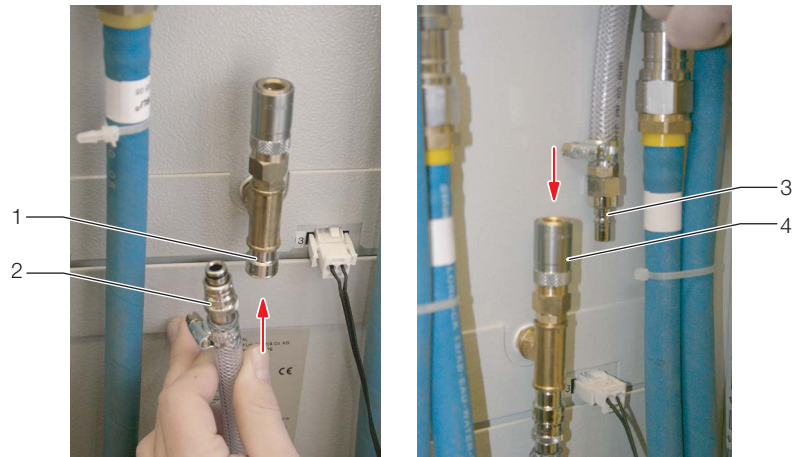

Fig. 36: Quick release fastener on the condensate discharge
- Connect the condensate hose's plug-in nipple with the lower connection on the condensate discharge on the front side of the heat exchanger module. To do this, press the plug-in nipple (Fig. 36, Pos. 2) firmly from below onto the fastener pocket on the condensate discharge (Fig. 36, Pos. 1) until the fastener snaps in place.
- If several LCP modules are built into the Liquid Cooling Package, connect the plug-in nipple on the condensate hose with the upper connection of the condensate discharge on the front side of the heat exchanger module. To do this, press the plug-in nipple (Fig. 36, Pos. 3) firmly from above onto the fastener pocket on the condensate discharge (Fig. 36, Pos. 4) until the fastener snaps in place.